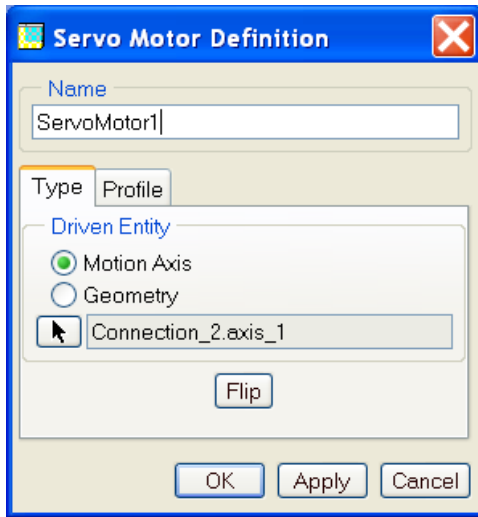

Figure 3a
- c) On the **Type** tab, for the **Driven Entity**, select **Motion Axis**, and choose the pin joint connecting part1.prt to part2.prt (connection_2_axis_1) as shown in figure 3a.